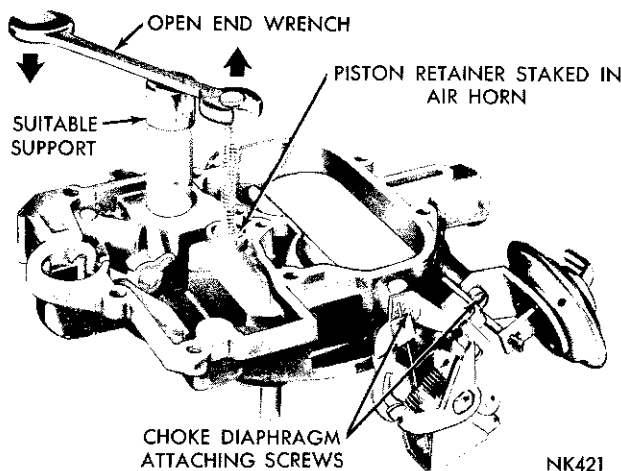

Fig. 5—Removing the Vacuum Power Piston
(2) Remove the vacuum power piston from the air horn, using an open end wrench and wood block, as shown in (Fig. 5). (Exert sufficient pressure on end of wrench to force piston out of its well in air horn. This assembly is staked in the air horn and care should be used at removal.) Discard the air horn gasket.
(3) Remove the choke vacuum diaphragm and bracket assembly and place to one side to be cleaned as a special item. **A liquid cleaner may damage the diaphragm material.**
(4) Test the freeness of the choke mechanism in the air horn. The choke shaft must float free to operate correctly. If the choke shaft sticks in the bear-